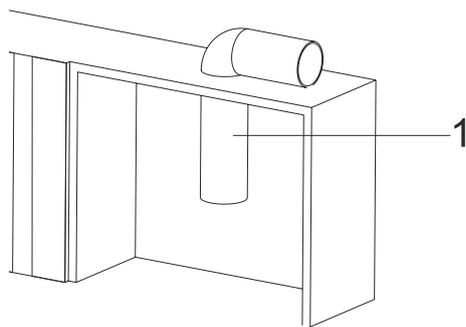

Fig. 16
2. → Bring the air exhaust pipe to the cabin in which the appliance will be mounted on (Fig. 16).